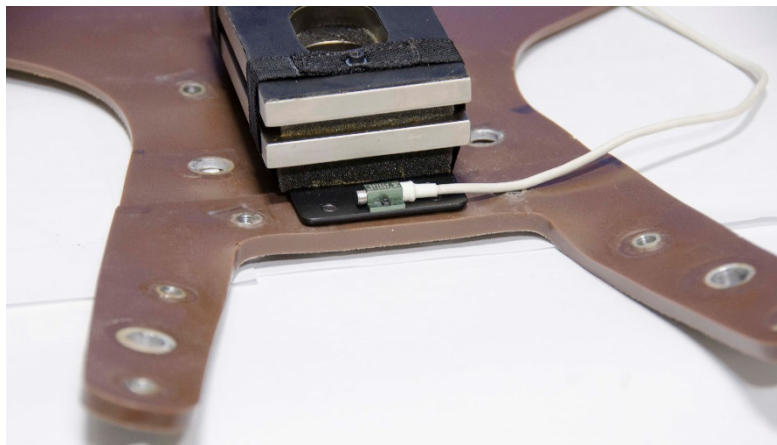

Figure 6-47. Install accelerometer to sternum mass
- 6.2.2.40 Install a uniaxial accelerometer to the sternum mass using two M1.4 x 0.3 x 3 SHCS (Figure 6-47).